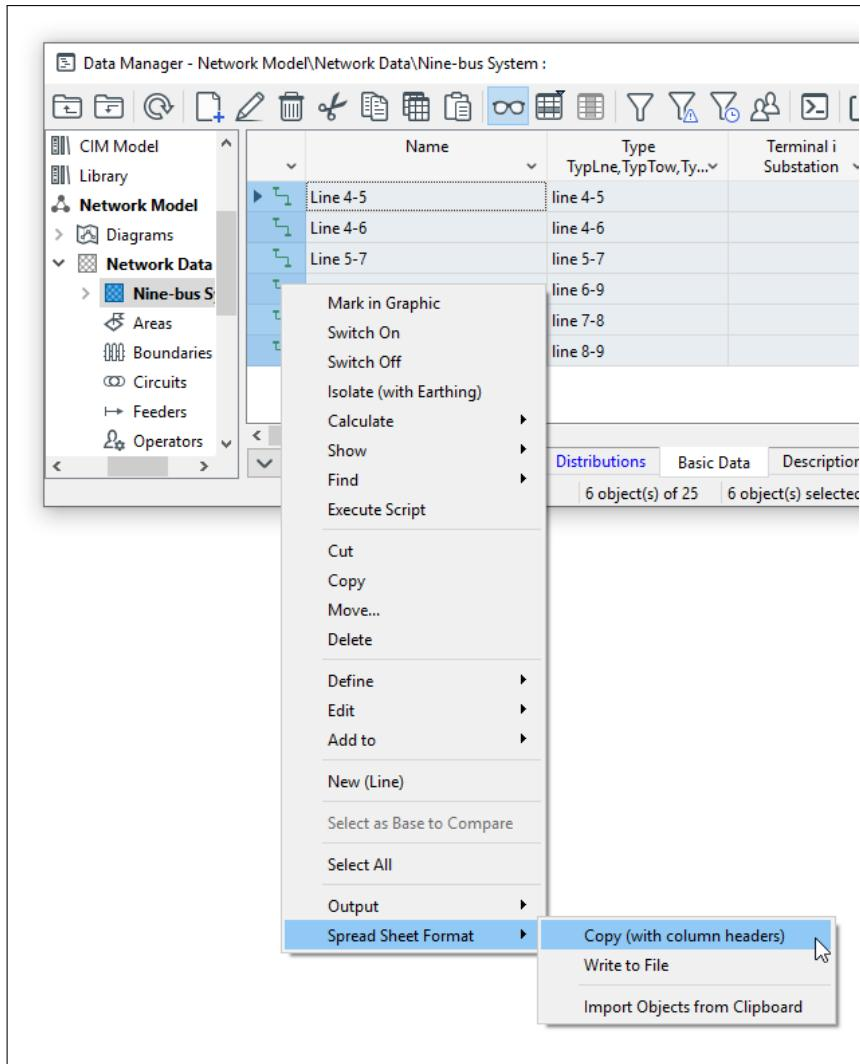

Figure 10.9.1: Exporting a range of data
- If you want to copy the content of the marked cells together with a description header, select the *Spread Sheet Format* option. This opens a second menu which offers the choice between writing the Spreadsheet export to a file (*Write to File*), or to put it on the Windows Clipboard (*Copy (with column headers)*). See Figure 10.9.1.